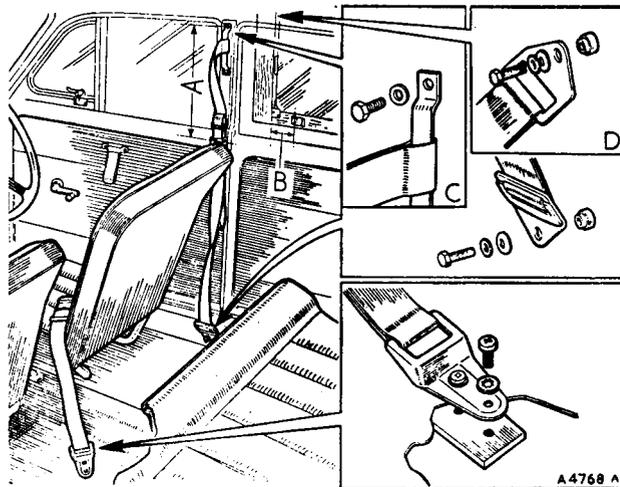

Fig. R.55
- (1) Locate the two centre pillar fixing holes by feeling the surface of the trim and cut the trim in the form of a cross immediately over the two holes.
- (2) Fold the edges of the trim under the trim panel.
- (3) Attach the bar-type bracket of the long belt to the pillar, using the screws and washers provided (see [c], Fig. R.55).
- (1) Position the belt clip on the centre pillar 15 in. (381 mm.) below the upper fixing point of the bar-type bracket of the long belt (see (A), Fig. R.55). The open end of the clip is to face forward.
- (2) Use a No. 31 drill (.120 in. diameter) to drill the two fixing holes in the pillar.
- (3) Secure the clip to the pillar with the two fixing screws provided.
- (4) Position the warning label on the rear of the front seat squab as near to the top of the squab as possible.
- (5) Use a No. 38 drill ( $\cdot 101$  in. diameter) to drill the two fixing holes.
- (6) Secure the label to the squab with the two No. 6 screws provided.
- (2) Place the shouldered distance piece into the under side of the top end bracket of the long belt so that the large diameter of the distance piece will abut the pillar.
- (3) Secure the bracket to the pillar weld-nut with the screw, plain washer, and waved washer (see [D], Fig. R.55); ensure that the wave of the washer faces the bracket.
- (1) Position the belt clip on the centre pillar 15 in. (381 mm.) below the upper fixing point of the long belt (see (A), Fig. R.55). The open end of the clip is to face rearward.
- (2) Use a No. 31 (.120 in. diameter) drill to drill two holes in the pillar and secure the clip to the pillar with the two No. 8 screws provided.
- (3) Secure the warning plate to the rear of the front seat squab as detailed in Section R.38.